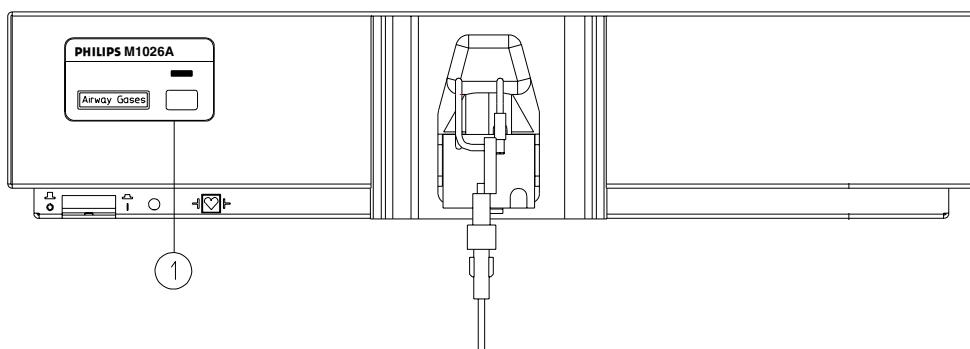

Figure 6 Label for the Philips M1026A Anesthetic Gas Module
There is a label sheet included with the Philips M1026A Anesthetic Gas Module which has the translated versions for "Airway Gases". You can stick a translated version over "Airway Gases" on the left of the front panel. See (1) in Figure 6.